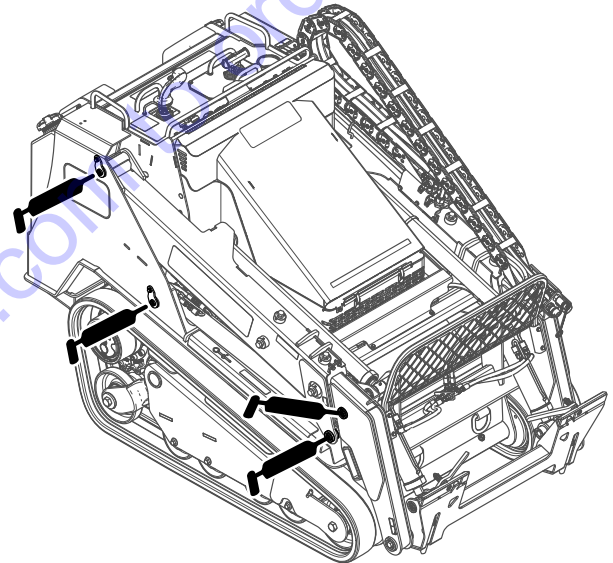
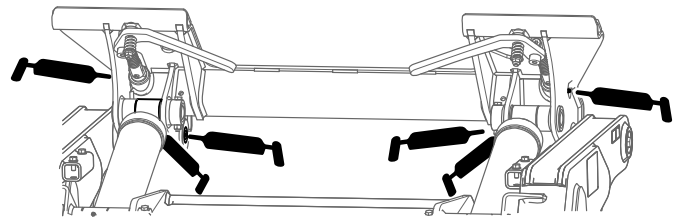
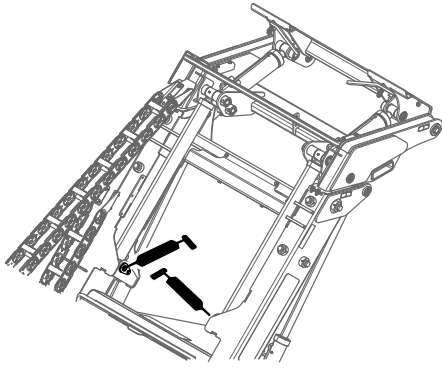

Figure 47
Figure 48
Figure 49
4. Connect a grease gun to each fitting (Figure 47, Figure 48, and Figure 49).
**Note:** Raise the loader arms before greasing the fittings in Figure 49.